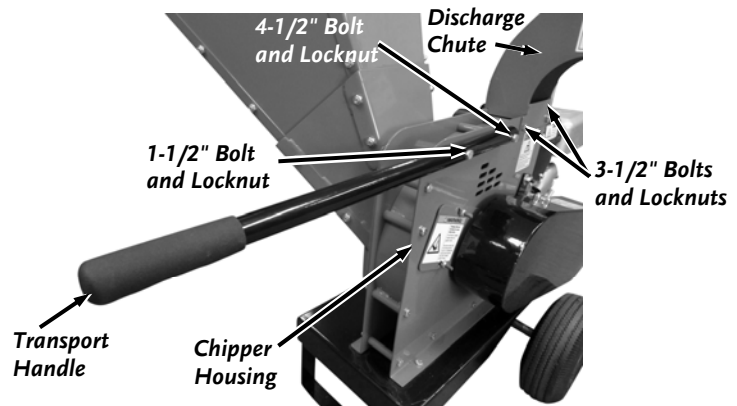

Figure 7
1. Position the Discharge Chute facing away from the Hopper Assembly as shown and secure with two 3-1/2" long Bolts and Locknuts using 1/2" Wrenches (Figure 7).